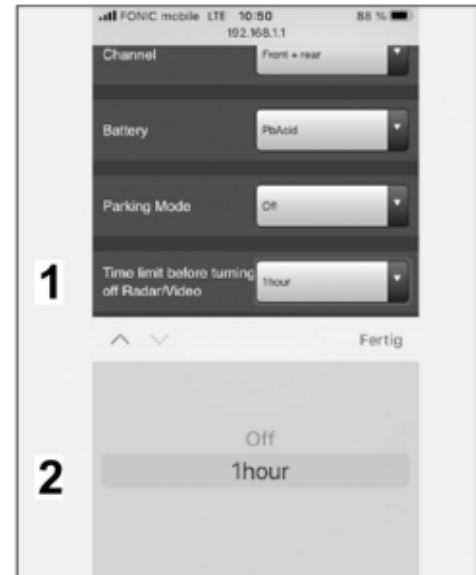

Figure 29
5.3.6 Select the time limit (⇒ Figure 29)